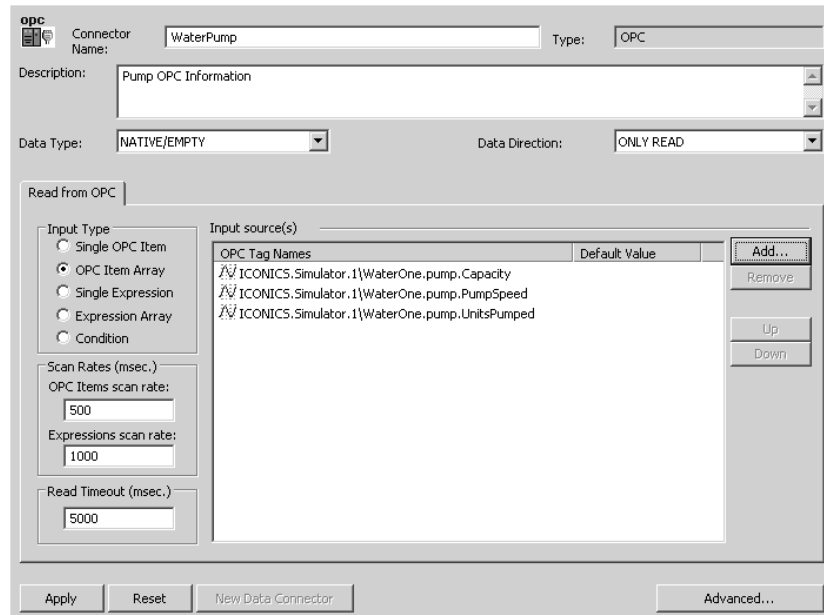

Figure L3.14 - OPC Input Tags
6. Right-click on the selected items and select Enter Up. This places the selected tags into the top pane, selected items list. Click on **OK** and the selected tags will populate the center dialog as shown in Figure L3.14. Click on **Apply** when finished.